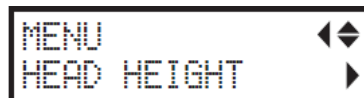

Fig 49: Selecting the Head Height Option
Step 3: Press the Right arrow button to confirm the selection (Refer to Fig 49).